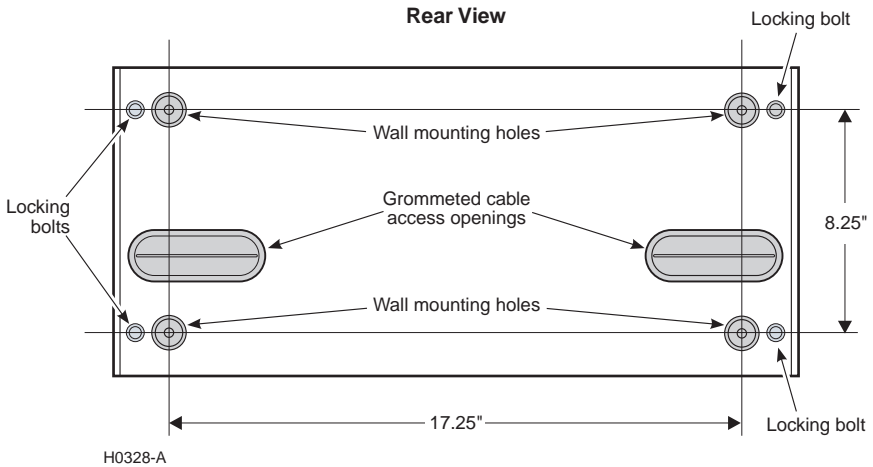

Figure 1. HRE-425 List 1 Backplate
- 1 Loosen the four rear-panel locking bolts and remove the backplate (Figure 1).
- Purchase optional 12-port RJ48 harmonic cable assemblies from ADC for the CPE interface : RJ48C (Part Number 150-2201-01) or RJ48X (Part Number 150-2201-02). You can attach these cable assemblies to the top, bottom, or either of the two side panels through the wall mounting holes located on each panel. **Figure 1** shows the locations of these mounting holes on the side panel.